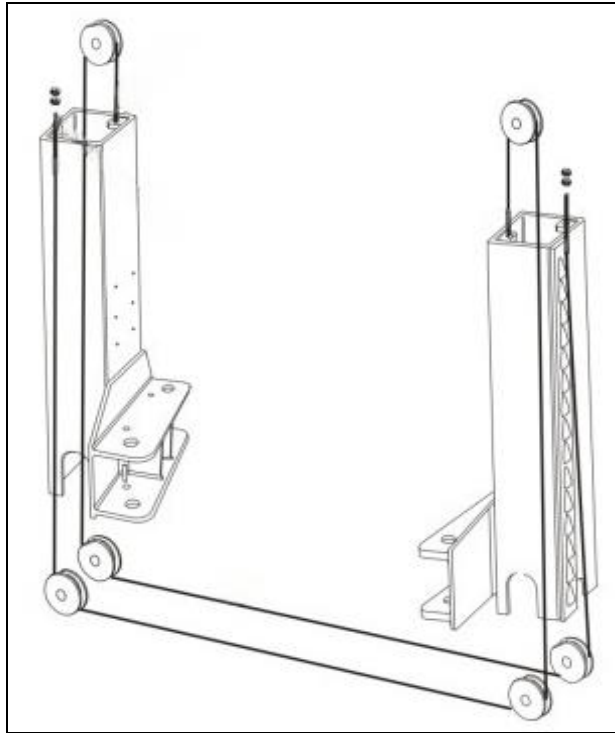

Figure 7 Wire rope pulley set
7.6 Install the balance wire rope to ensure both side carriages are engaged at the first safety stop. Position the balance wire rope along the trajectory shown in Figure 7. Do not tighten the nuts initially; adjust the tension of both wire ropes during synchronization testing.